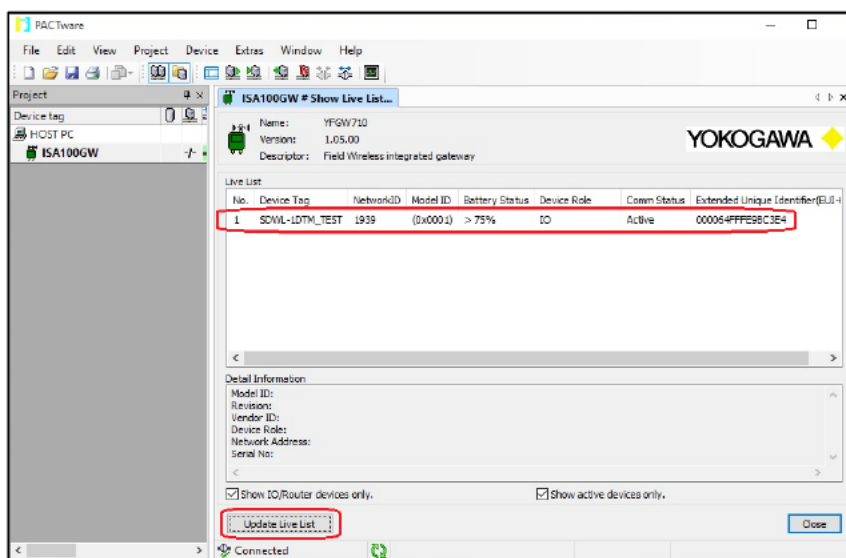

Figure 5-26 Updating live list
- ⑤ The live list is displayed. Click “Update Live List” to update the live list. The SDWL-1 will be displayed on the list if it is correctly connected to the system. (Figure 5-26)